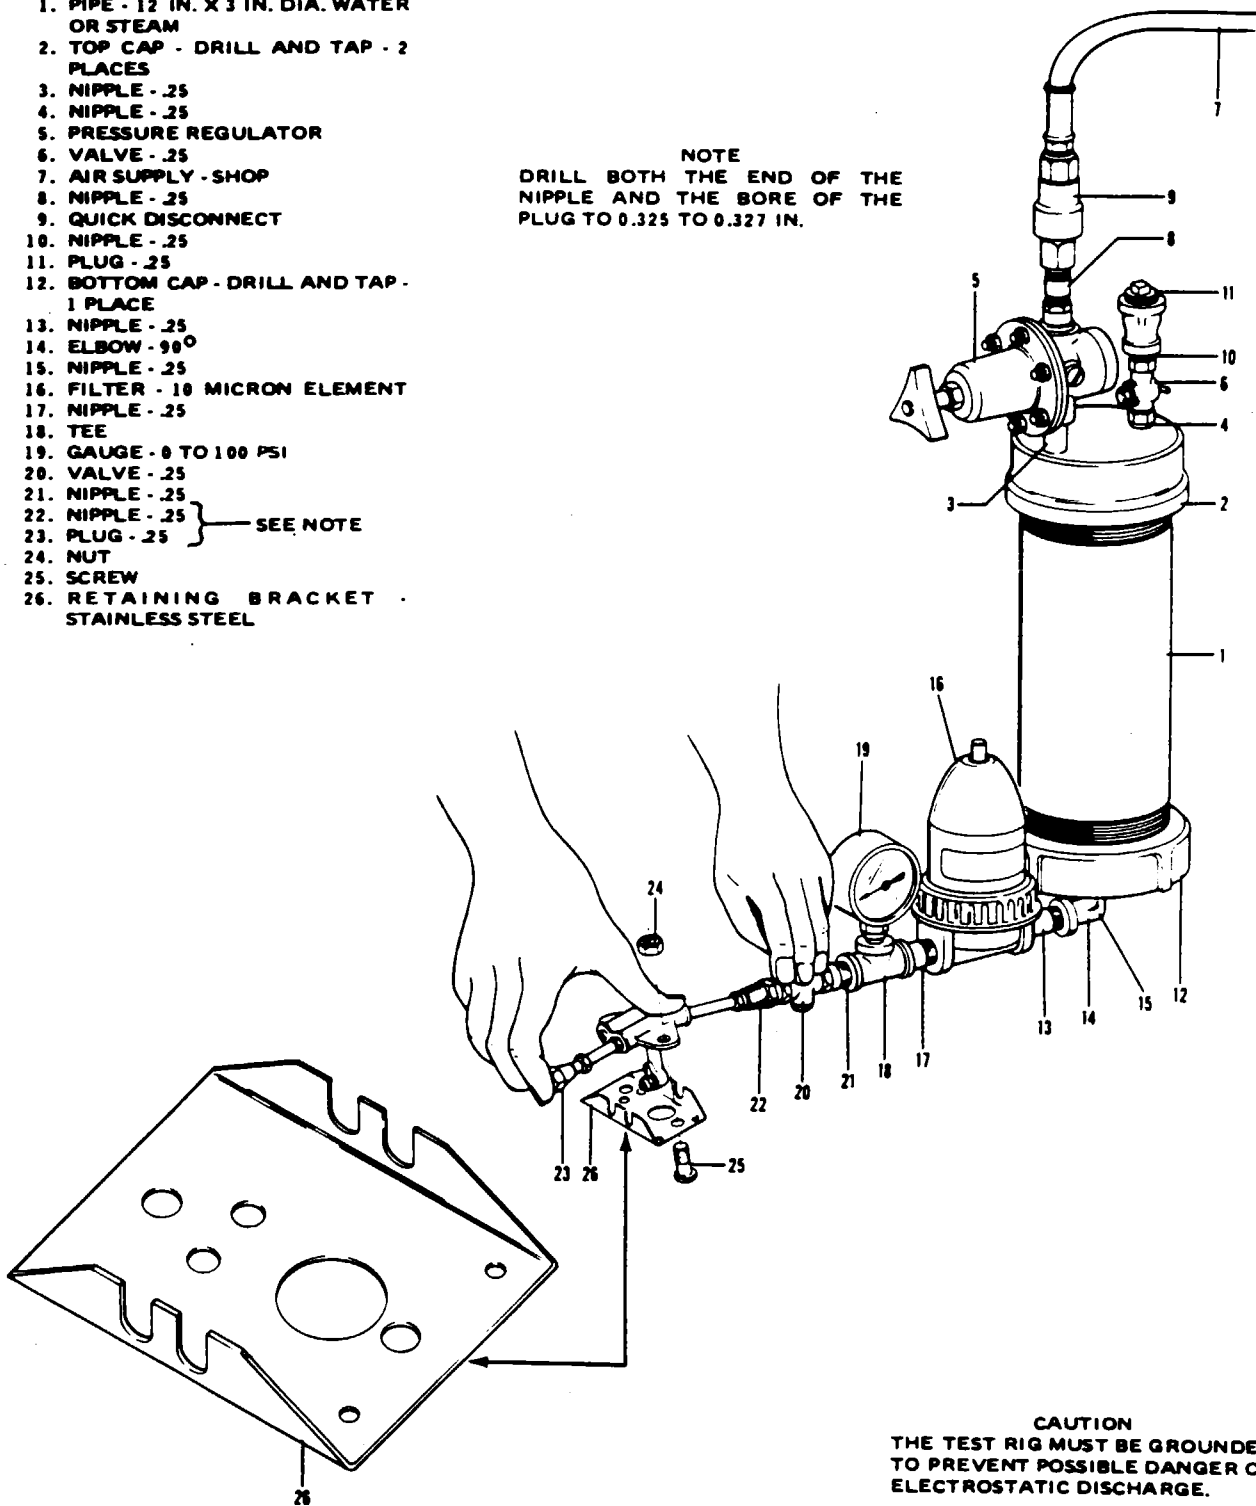

Figure 73-2. Fuel Manifold Test Rig
Fuel nozzles may be tested alone or in their adapters, using the Pratt and Whitney Aircraft of Canada, Ltd. test rig P/N CPWA30506 or by fabricating a test rig locally from information supplied with this text. (Refer to Figure 73-2.)
3. Install a fuel nozzle with or without its adapter using a mounting bracket if desired. Refer to Figure 73-2 for view of mounting bracket.